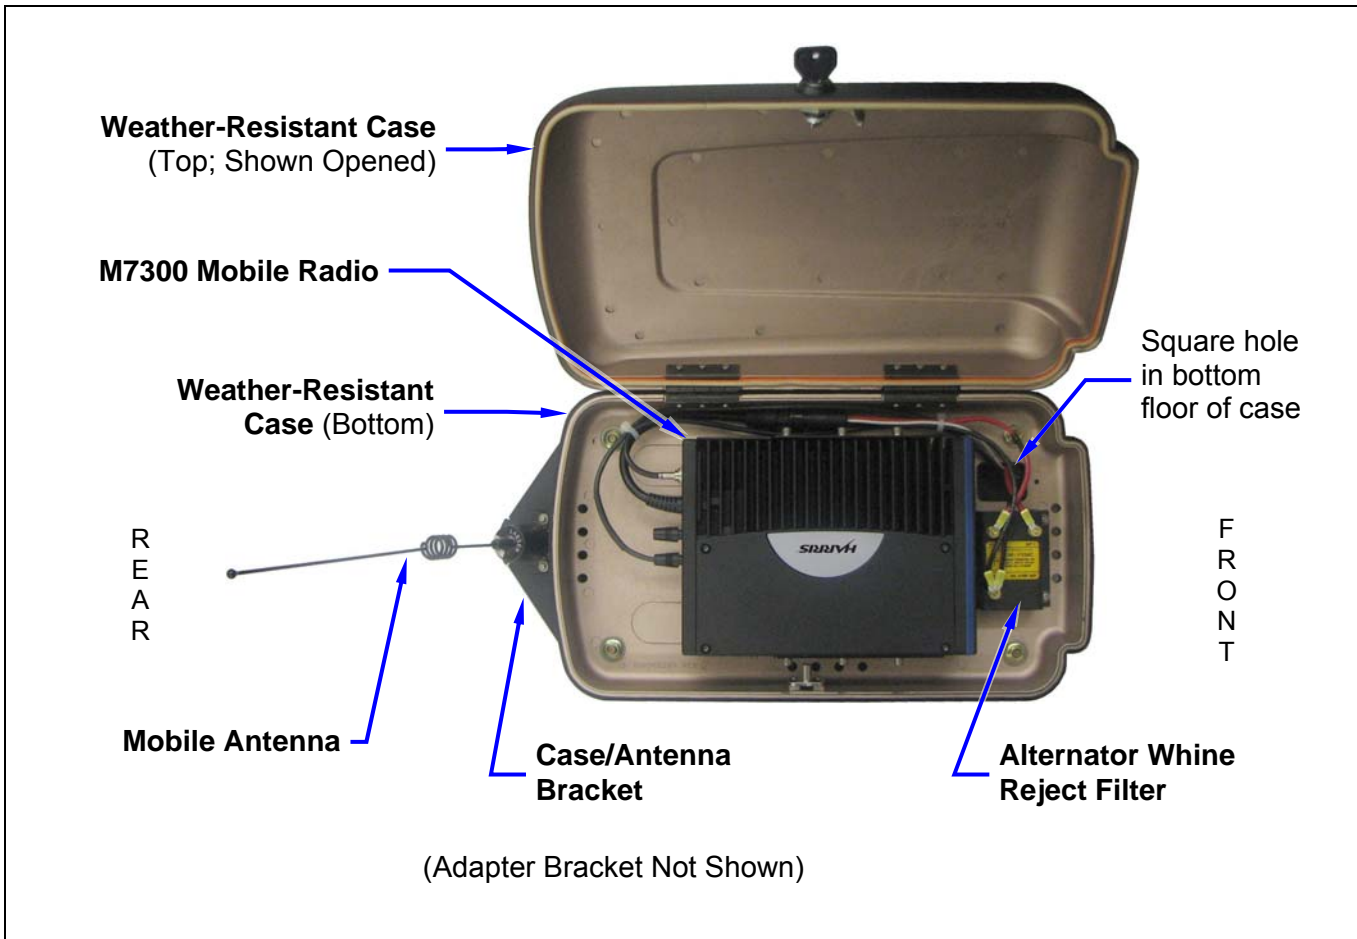
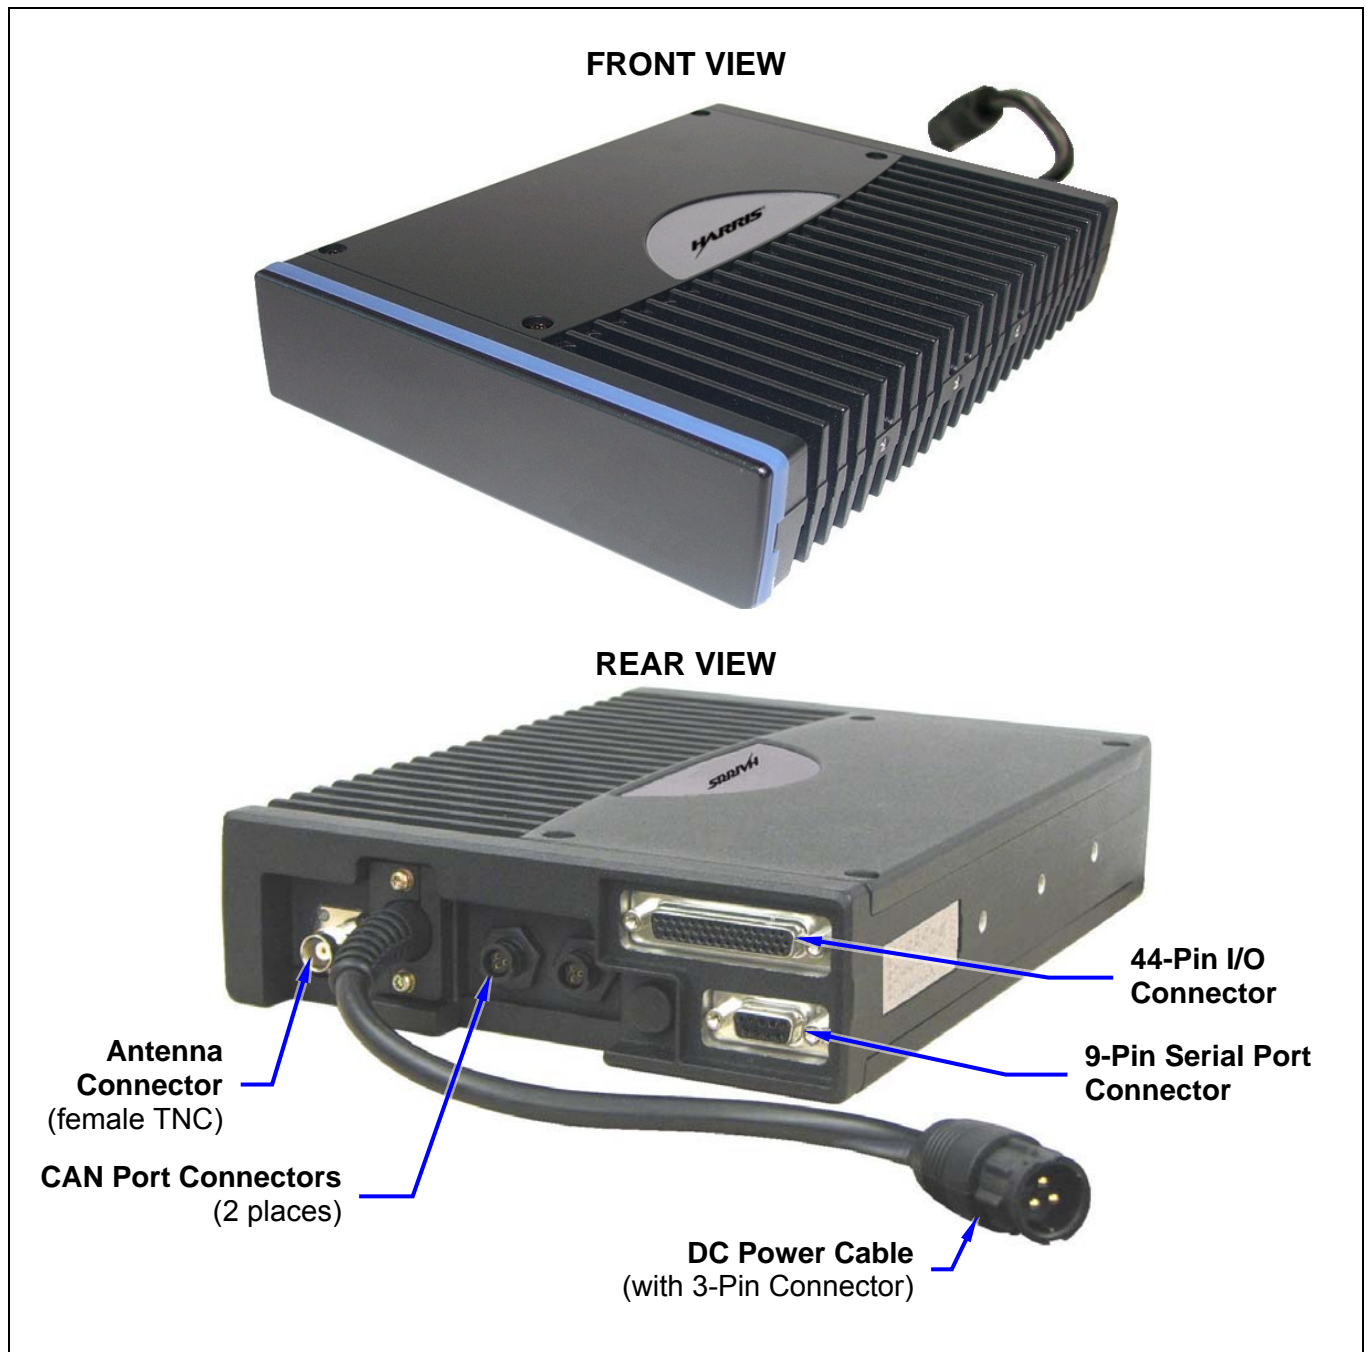

Figure 5-3: M5300/M7300 Mobile Radio inside Weather-Resistant Motorcycle Radio Case
Figure 5-4: M5300/M7300 Mobile Radio — Front and Rear Views (Radio Removed from Case)
1. Lay the radio down into the mounting bracket with its front surface towards the front of the case. This positions the connectors on the rear panel of the radio towards the rear of the case and motorcycle. See Figure 5-3 and Figure 5-4 on pages 30 and 31.